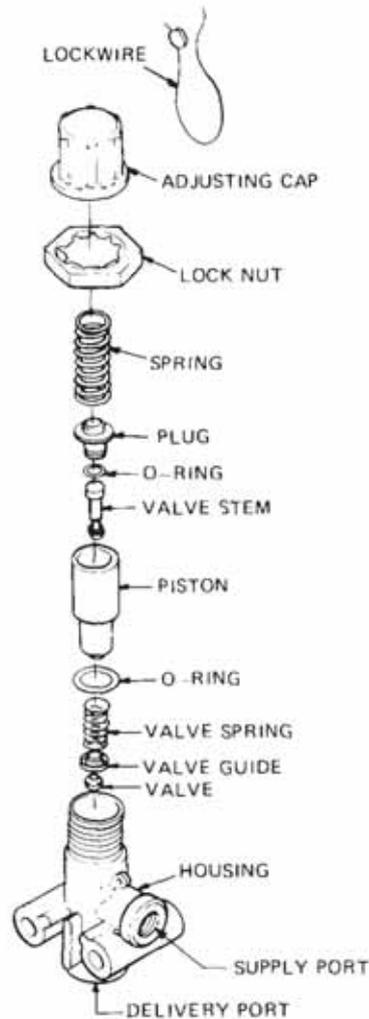

Figure 12 Pressure Protection Valve – Exploded View
20. The pressure protection valve (Figure 12), closes automatically should an air reservoir failure occur. The closing pressure is preset to 450 kPa (65 psi).